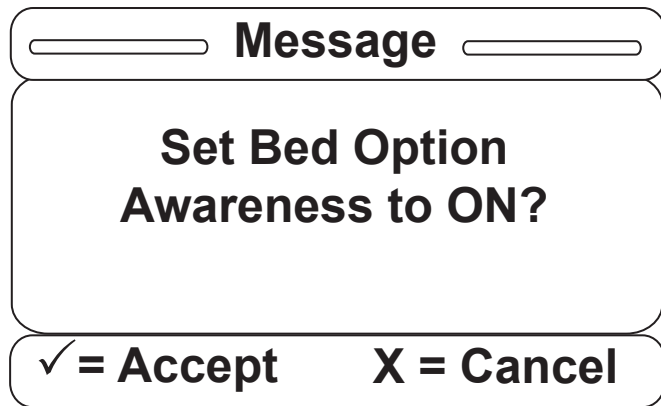

Figure S-16
16. After Awareness has been selected, a confirmation screen will be displayed as shown in Figure S-16. Confirm you want to Set Bed Option Awareness to ON by pressing “Enter” on the footboard panel. If needed, press “Exit” to cancel the operation.